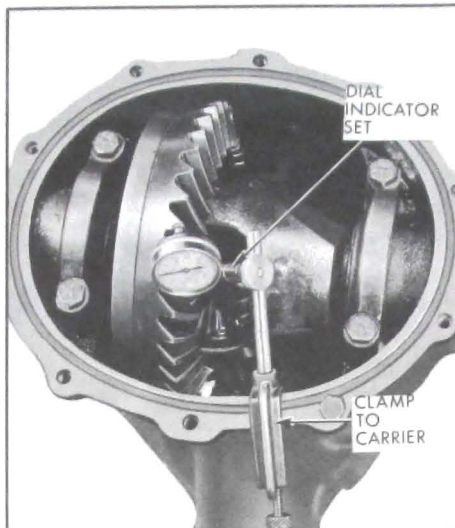

Figure 6-35—Checking Ring Gear to Pinion Backlash
2. Rotate differential case several times to seat bearings, then mount dial indicator as shown in Figure 6-35. Use a small button on indicator stem so that contact can be made near heel end of tooth. Set dial indicator so that stem is as nearly as possible in line with gear rotation and perpendicular to tooth angle for accurate backlash reading.